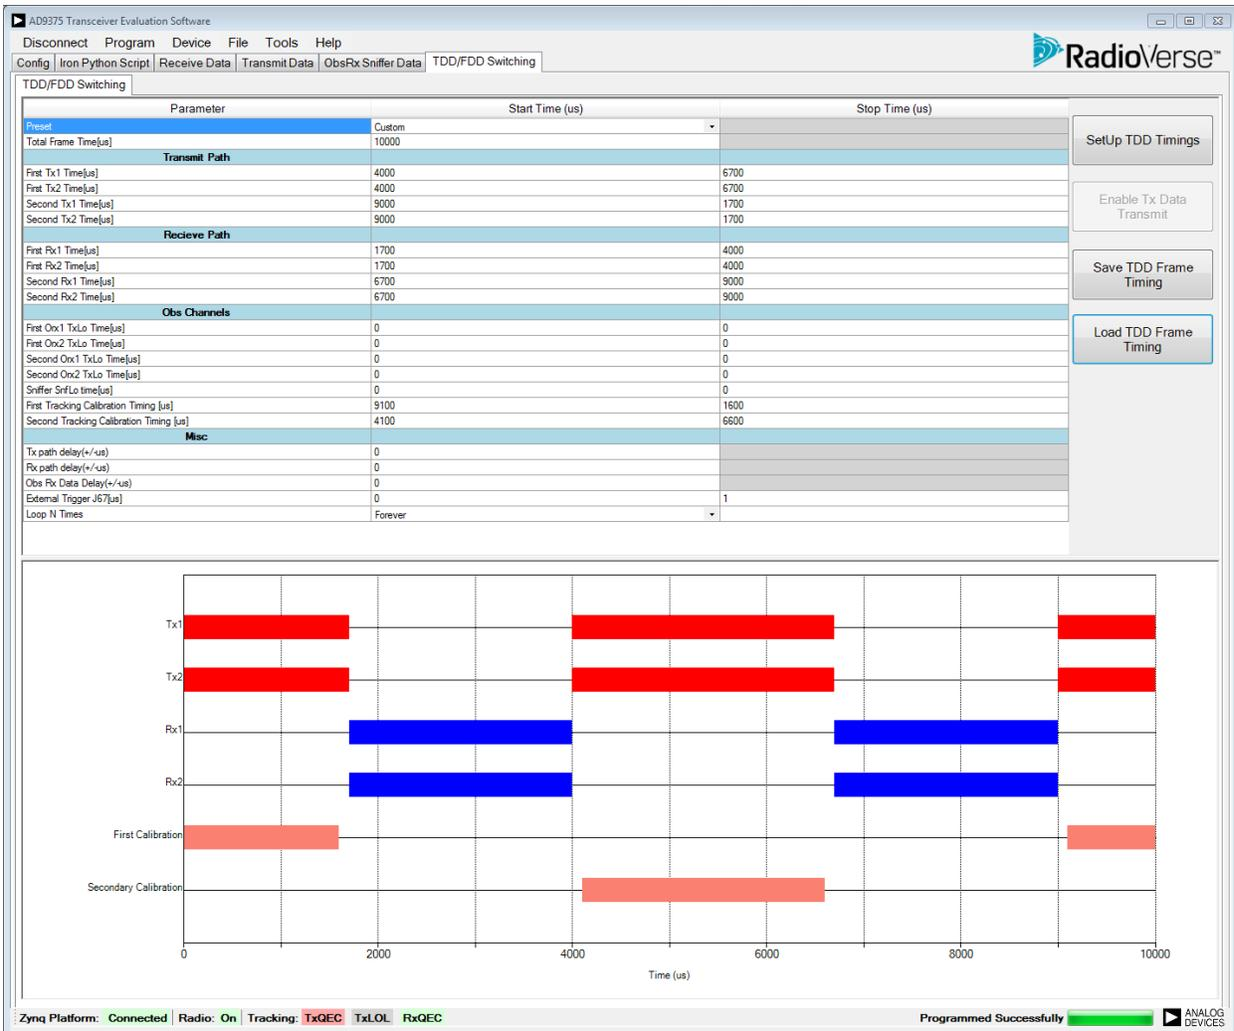

Figure 259. TES TDD Configuration 1 Waveform Switching Configuration with Tx Tracking Calibrations
3. Close the DPD GUI and connect using the **TES**. Navigate to the **TDD/FDD Switching** tab and set up the Tx and Rx frame timing according to the baseband signal loaded in Step 2. Refer to Figure 259 for a Configuration 1 setup.
4. Choose the tracking calibration timing to observe different Tx or downlink (DL) bursts in the TDD waveform (ORx 1 and ORx2 cannot be active at the same time) to enable the DPD to adapt to both the Tx1 and the Tx2 outputs. Allow for some guard period (variable) around the Tx switching